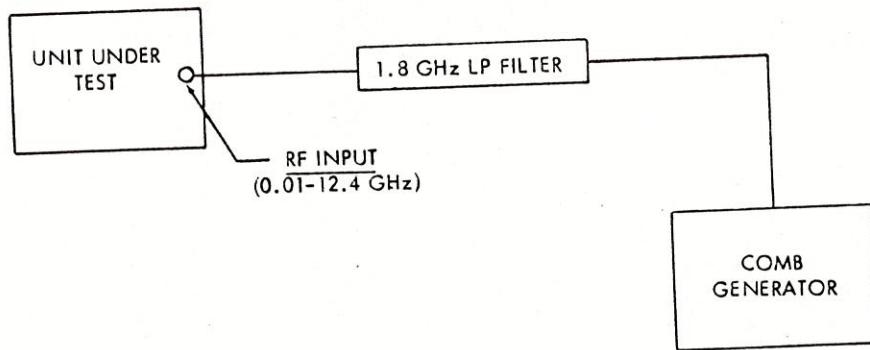

Figure 6-1. Performance Checks with Comb Generator
(1) Display Set-up
- (b) Connect comb generator (Item 1) and 1.8 GHz low pass filter (Item 2) to RF INPUT as shown in figure 6-1. Set comb generator for 100 MHz, full amplitude.
- (1) Connect comb generator (Item 1) and low pass filter (Item 2) to RF INPUT as shown in figure 6-1. Select 100 MHz signal and adjust amplitude to full on.
- (2) Adjust FREQUENCY TUNE control to center pointer on dial at zero. Adjust FINE TUNE to center zero beat on screen.
- (3) Advance FREQUENCY TUNE control from 0.2 to 2.0 GHz in 200 MHz increments and observe translation of markers to the left. Record frequency error of the respective marker as indicated on display.
- (4) Frequency error shall not exceed \pm (2 MHz \pm 1% of dial reading) at each position.
- (1) Connect comb generator (Item 1) as shown in figure 6-1. Set for 100 MHz, adjust level for full on.
- (2) Decrease SCANWIDTH/DIV setting to 1 KHz/DIV, using FINE TUNE control to keep signal centered on screen.
- (3) Check the frequency scale for peak deviation of the trace between sweeps. Peak deviation shall not exceed 300 Hz (0.3 division on frequency scale).
- (a) Connect comb generator (Item 1) and 1.8 GHz low pass filter (Item 2) to RF INPUT (see figure 6-1).
(2) Operate analyzer and comb generator at the following settings, recording the results: